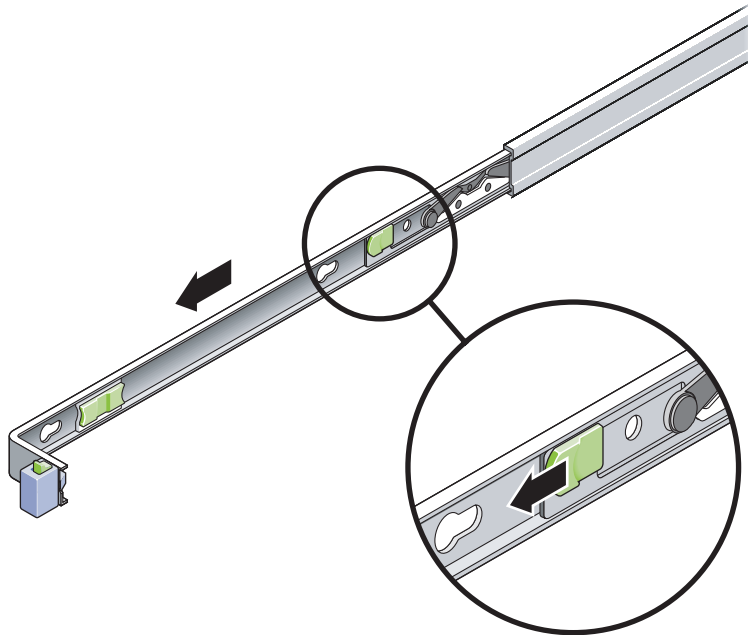

FIGURE 2-15 Location of the Mounting Bracket Release Button
- c. Slide the mounting bracket release button in the direction shown in FIGURE 2-15, and then slide the mounting bracket out of the slide rail.